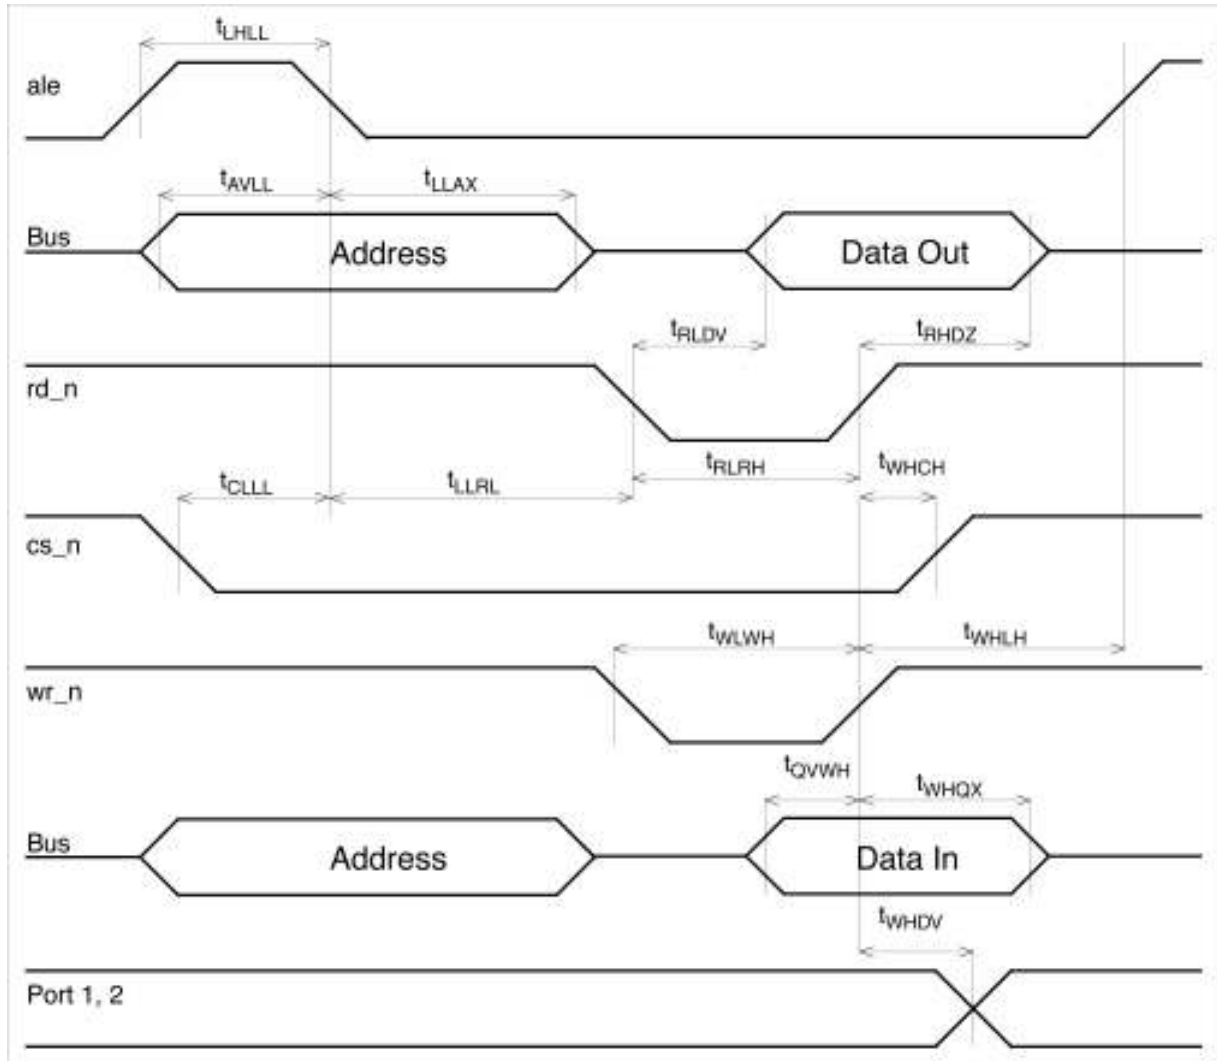

Figure 7. Mode 0 and Mode 1 General Bus Timing
- Mode 0 and Mode 1 General Bus Timing (Table 8/Figure 7)